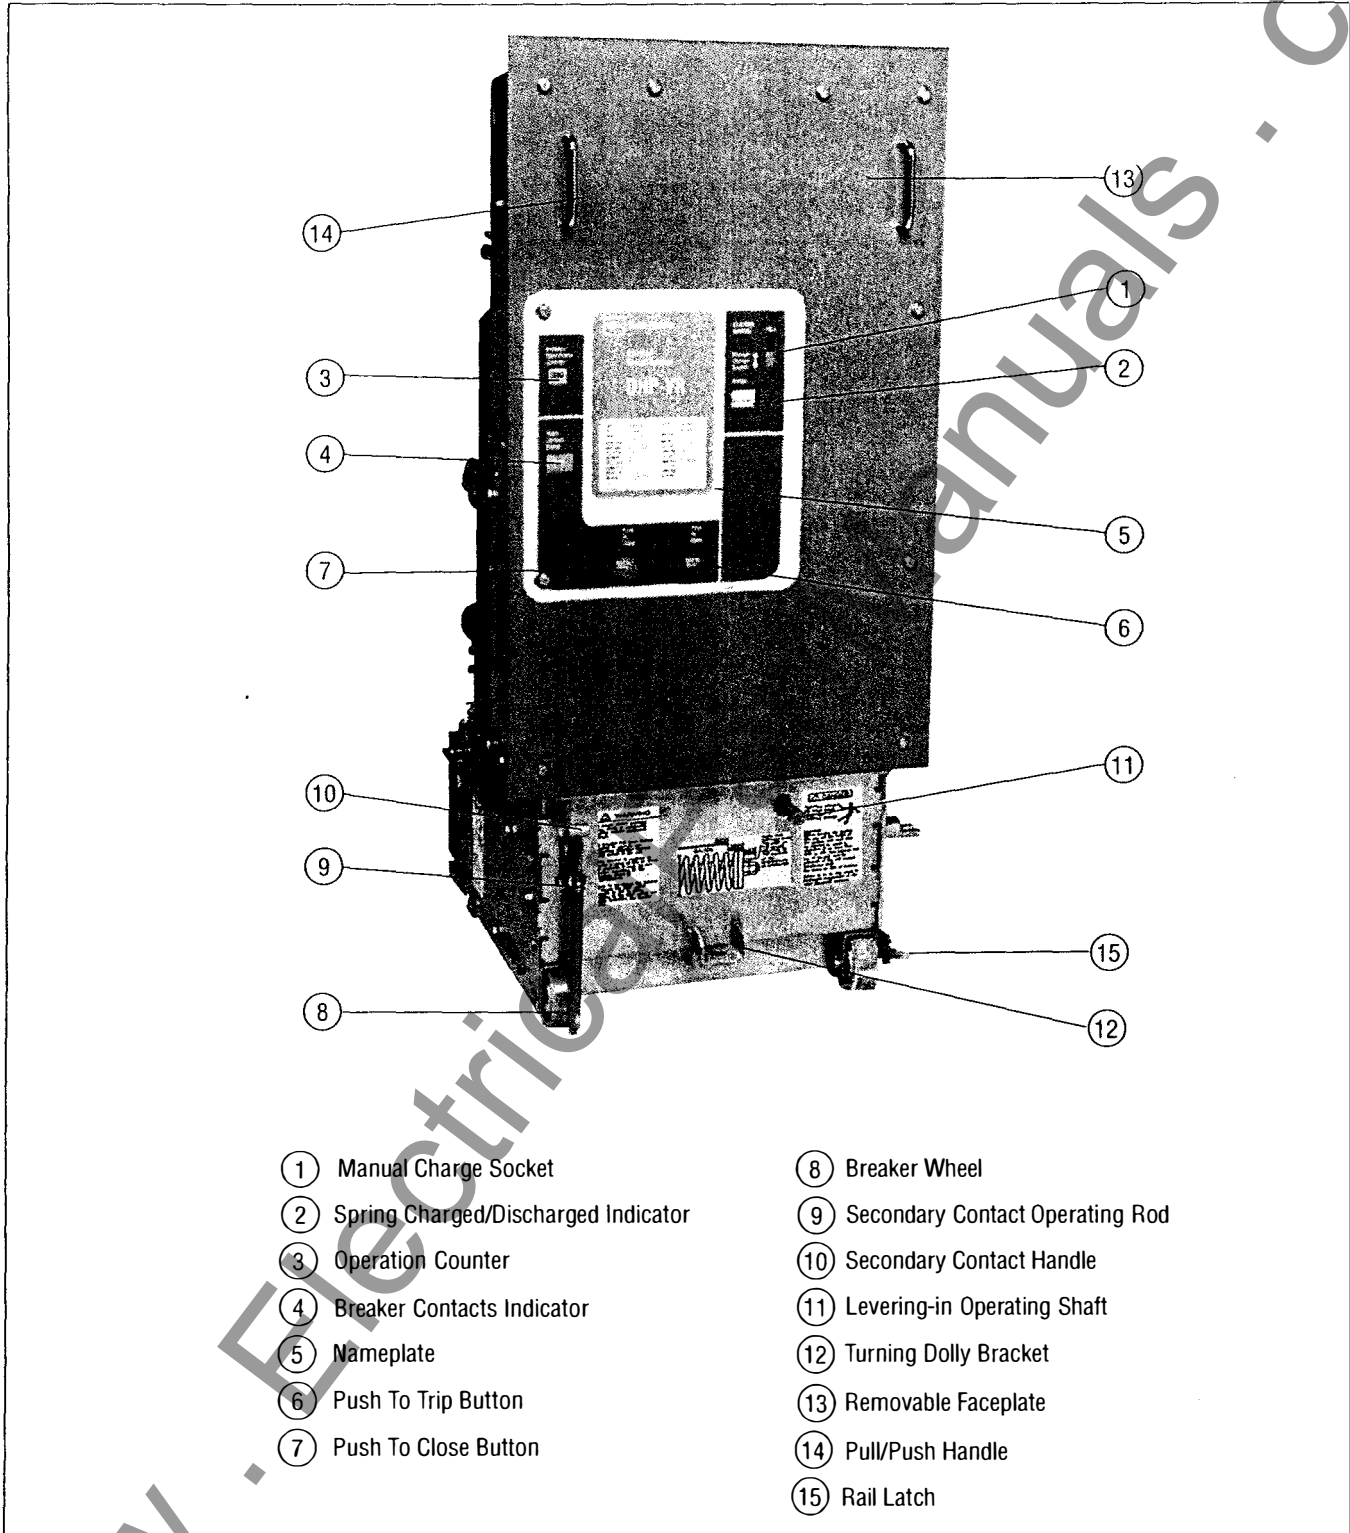

Figure 3-2 Front External View of DHP-VR Breaker (5kV, 250 MVA Rating)
The breaker is shipped with its contacts open and closing springs discharged. The indicators on the front panel should confirm this. Insert the maintenance tool in the manual charge socket opening (Figure 3-2 or 3-4). Charge the closing springs by pumping the handle up and down about 36 times until a crisp metallic "click" is heard. This indicates that the closing springs are charged and is shown by the closing spring "charged" (yellow) indicator. Remove the maintenance tool. Push the "manual close" button. The breaker will close as shown by the breaker contacts "closed" (red) indicator. Push the "manual trip" button. The breaker will trip as shown by the breaker contacts "open" (green) indicator. After completing this initial check, leave the closing springs "discharged" and breaker contacts "open".
Refer to Figures 3-2 through 3-5, depending upon the voltage rating of the breaker, for any parts identification required during these installation procedures.
- a. The circuit breaker's faceplate and barriers must be positioned properly and securely bolted in position, as shown in Figures 3-2 through 3-5, before inserting the breaker into the cell.